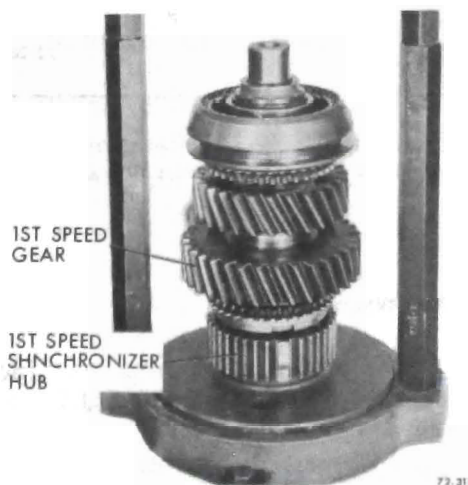

Figure 72-318 Install First-Speed Gear
6. Turn the rear of the mainshaft downward in the holding fixture and install the first-speed gear and blocker ring with clutching teeth downward. Position front face of gear against flange on mainshaft. See Figure 72-318.